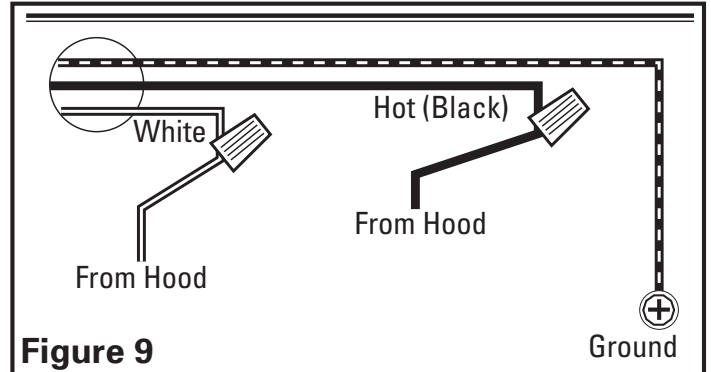

Figure 9
1. Connect the loose White wire from the range hood to the White wire from the supply, and the loose Black wire from the range hood to the Black wire of the supply. Connect the ground wire (green or bare) from the supply to the green ground screw of the hood. Use approved methods for all connections (**Figure 9**).